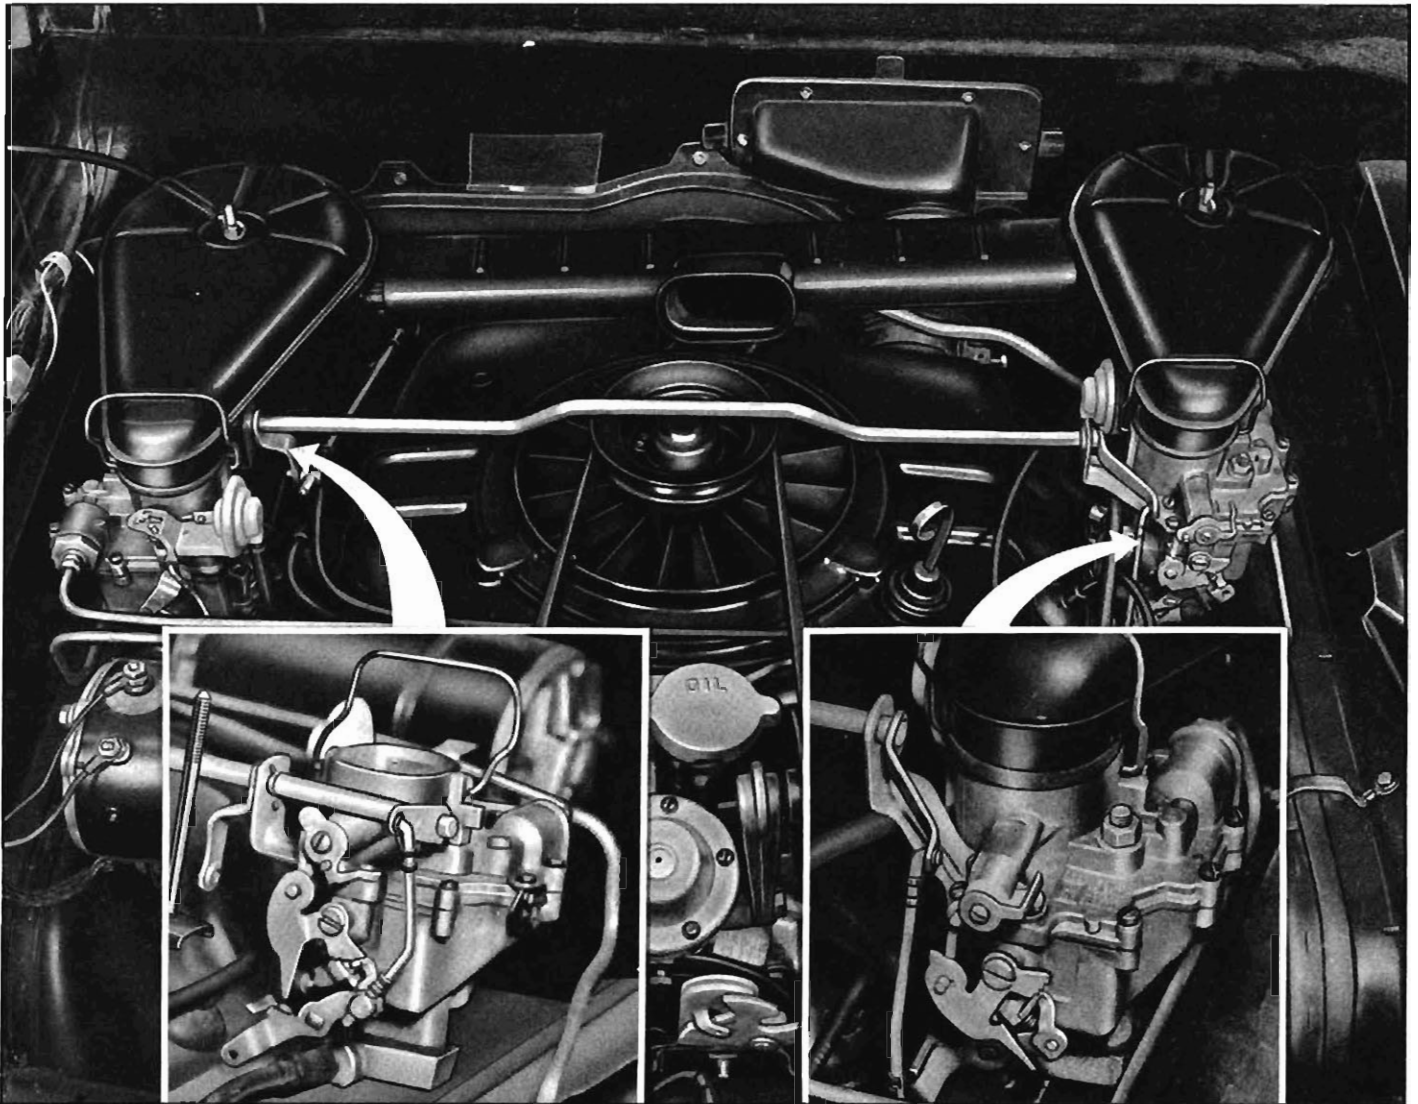

Fig. 7-4—Cross-Shaft and Carburetor Linkage.
(Refer to Figure 7-4)
- c. Connect vacuum gauge to adapter (fig. 7-4) on vacuum balance tube. (Remove transmission vacuum line on automatic transmission and cap on synchromesh from balance tube adapter.)